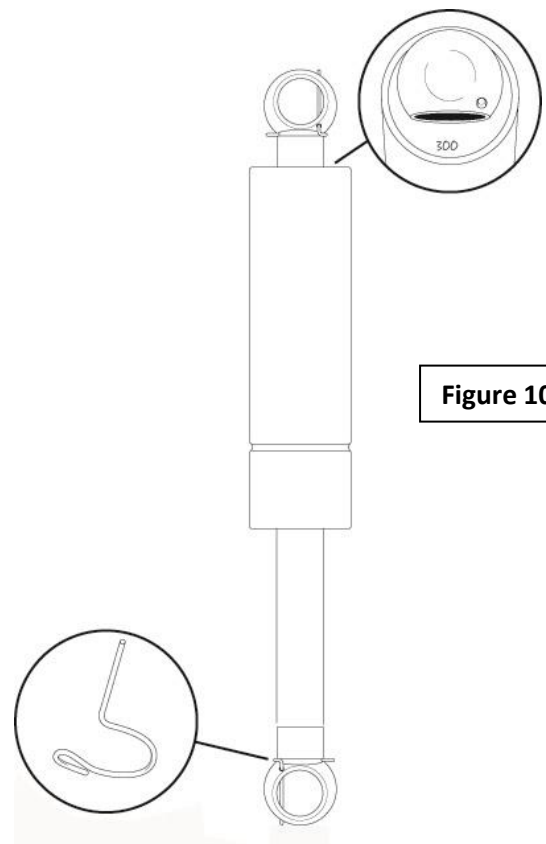

Figure 10
19. **BEFORE** installing the hood struts onto your truck, apply a small amount of grease to the ball studs and remove the wire keeper from each socket end of the strut (Figure 10). Install the stainless steel gas struts onto the hinge with the shaft side down ("body" end up) in order to insure proper operation and to prevent failure. **NOTE: you will NOT be able to collapse the struts without them first being installed and using the leverage of the hood.** Also, use caution as there is a small internal ring clip on the inside of the strut end. Should this become dislodged from its mounting groove, it will make it difficult to install the strut on to the ball stud. Do not replace the wire keepers at this time as you may need to remove the struts to adjust the hinges.